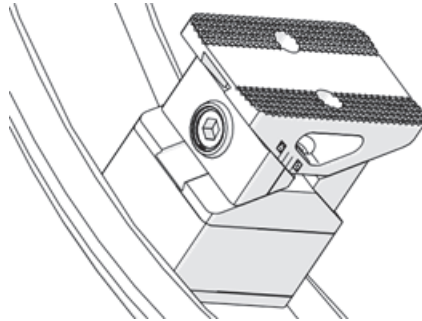

Figure 1-17 Foot spacer installed
2. With the foot removed, install or remove the spacer as needed for the pipe size (see Figure 1-17 on page 38).